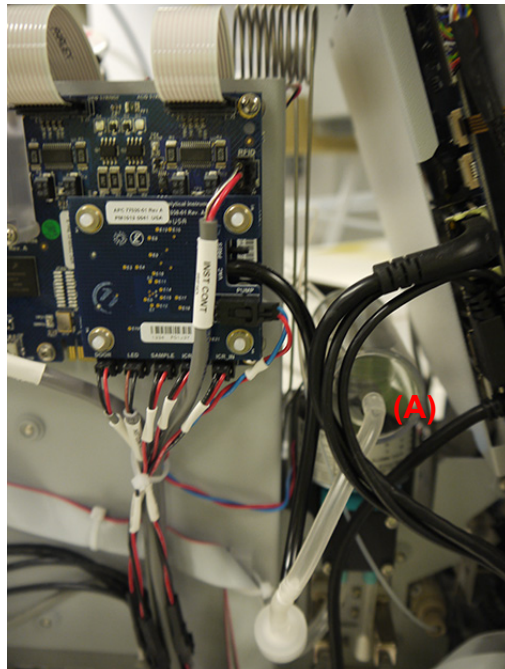

Figure 61: Electronics Side of Analyzer
4. Disconnect the tubing from the back of the degasser (**A**), (Figure 61).
8. Reconnect the tubing to the back of the degasser (**A**), (Figure 61).